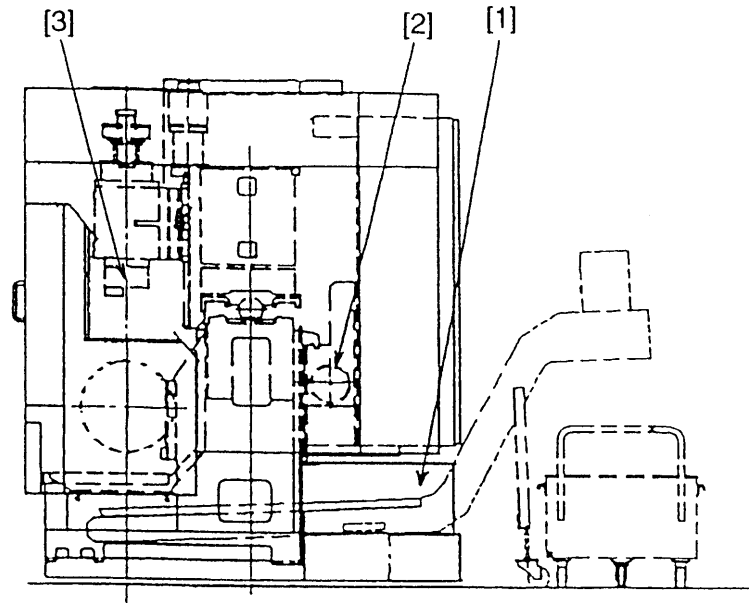

Fig. 1-8
- \* As to oil supply spots, supply frequency, oil amounts and oil types, refer Fig. 1-8 and Table 1-1.